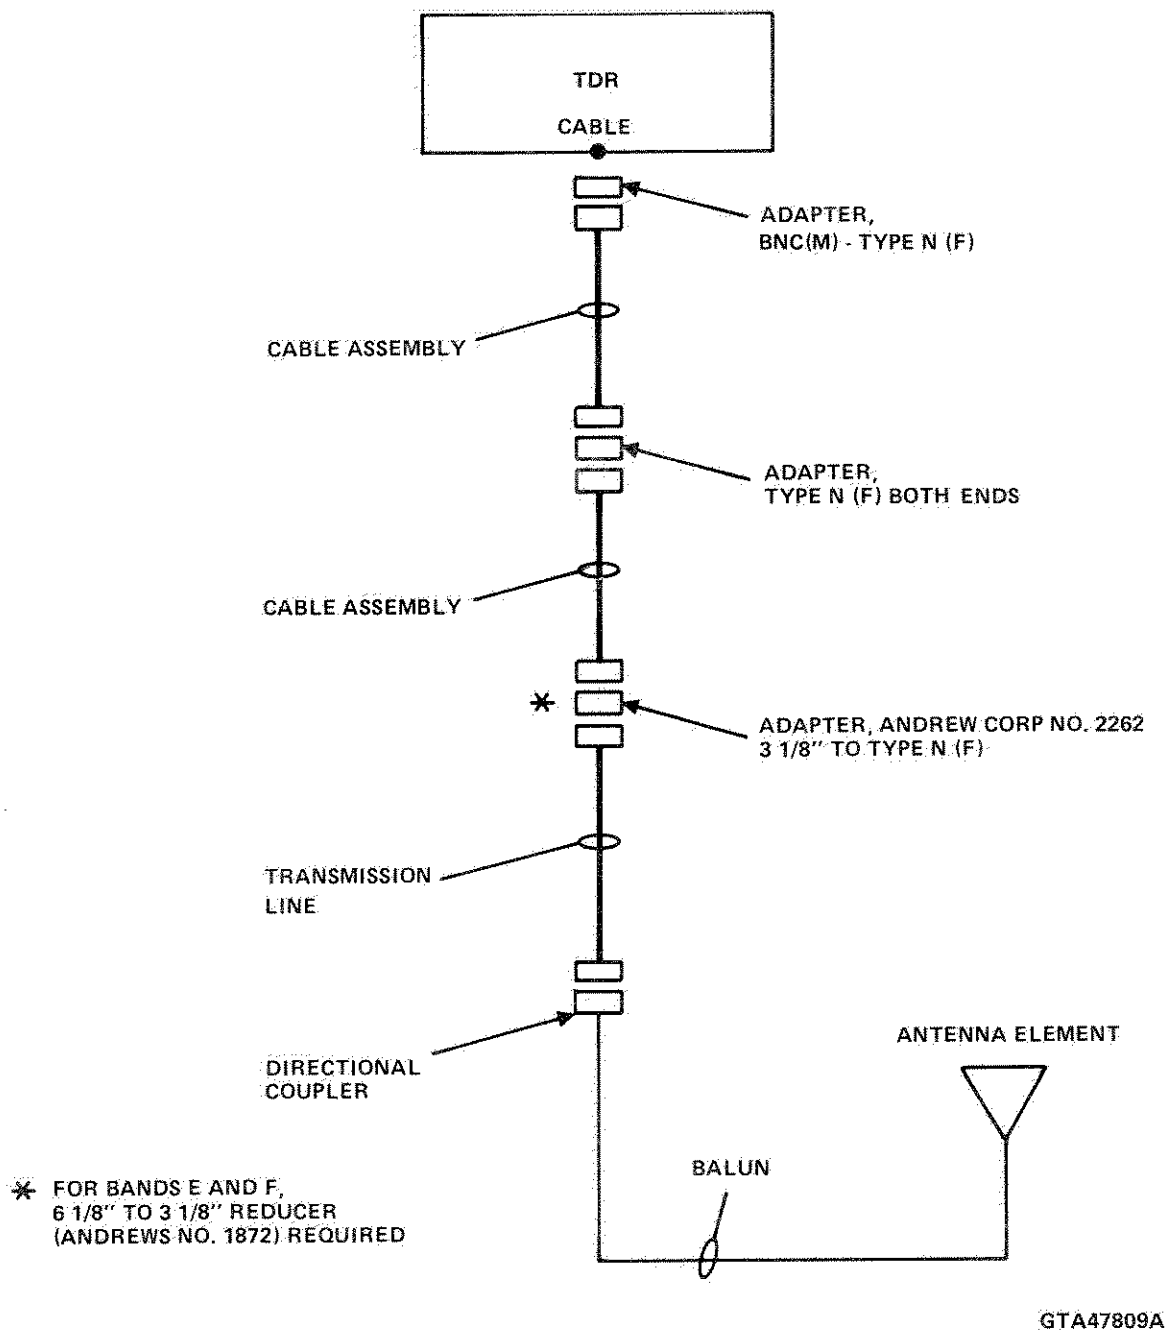

Figure 6-97. Transmission Path Time Domain Reflectometer Test Set-up
6. Set up test equipment (Figure 6-97).